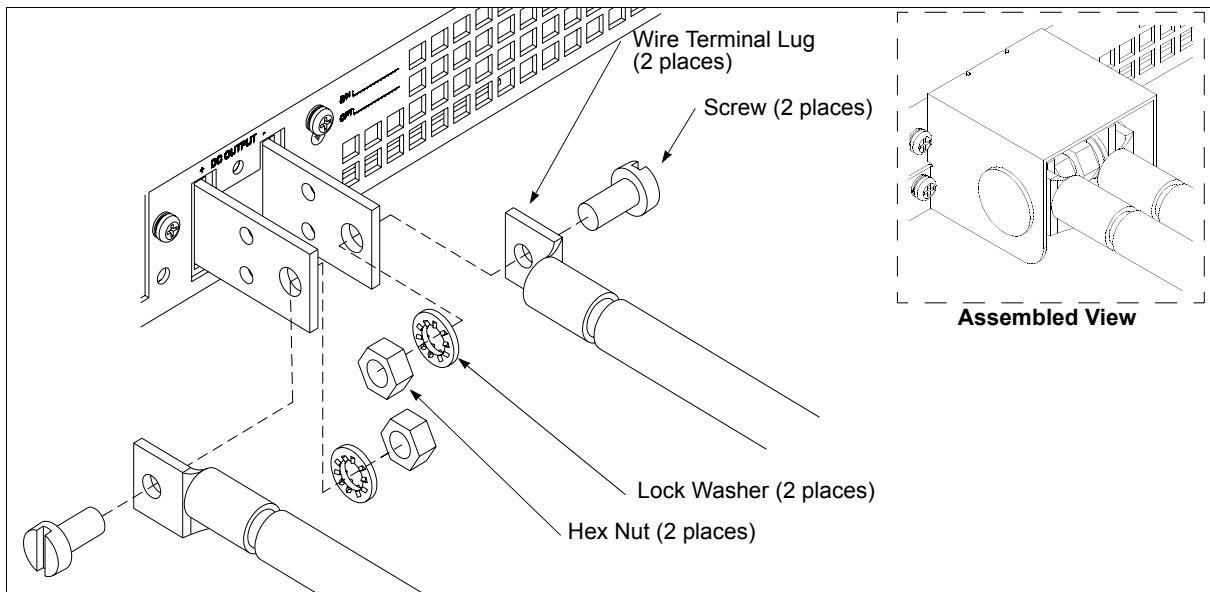

Figure 2.5 Typical Load Connection Hardware
1. Install a connecting wire terminal lug to load wiring (see Figure 2.5).
2. Fasten wire terminal lugs to bus bars with 1/4 in. x 1/2 in. (M6 x 12 mm) screws, 1/4 in. (M6) internal tooth lock washers, and hex nuts as shown in Figure 2.5.